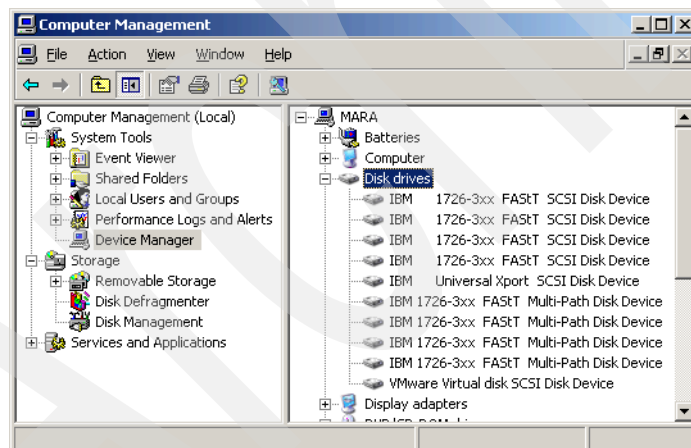

Figure 23-33 Windows Device Manager
8. Open Device Manager; we can see the four logical drives configured on the DS3300 (IBM 1726-3xx FASTT SCSI Disk Device) the Universal Xport SCSI Disk Device, and four IBM 1726-3xx FASTT Multipath Disk Devices, as shown in Figure 23-33. The redundant paths are not yet configured or used.